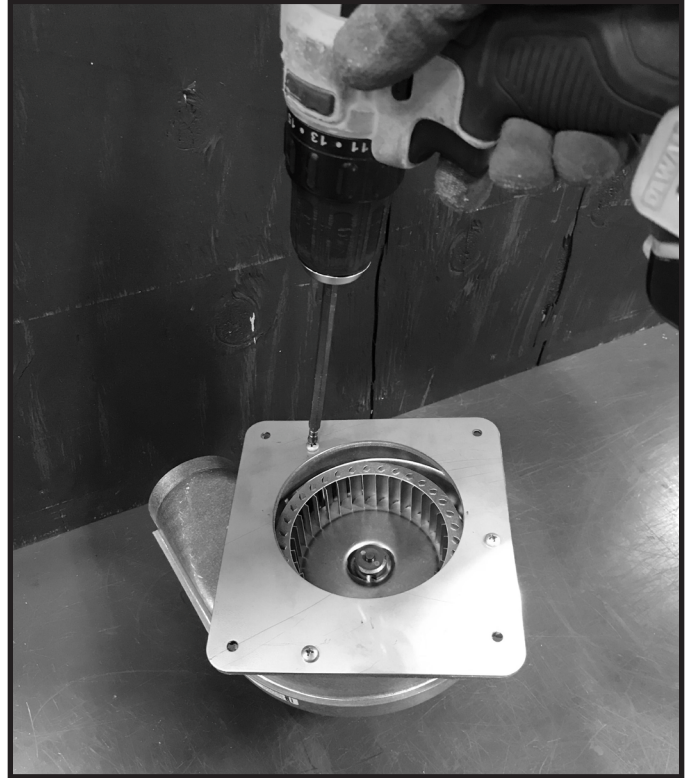

Figure 5.10
10. Remove the three screws holding the blower to the blower plate. See Figure 5.10.